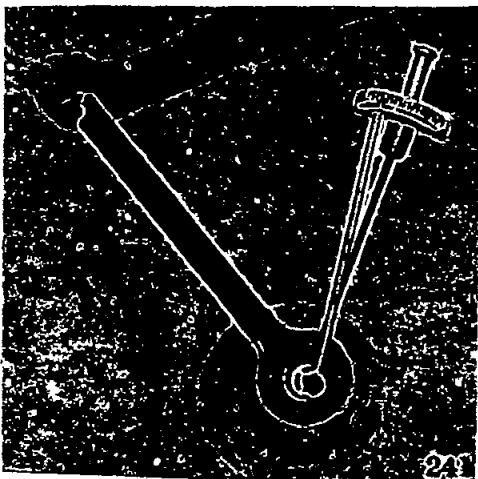

Fig. 16
- (5) The formal adjustment of the drive pinion, bearing and preload. After the fixing position of drive pinion is decided as mentioned in the previous paragraph, take off the pinion nut & companion flange to mount again the drive pinion bearing spacer (distance piece) and nut. Tighten up the nut as Fig. 16 by using the torque wrench at the regular torque of 100-120 ft/per lbs. The preload supportedly the bearing in this case is different according to the condition of the bearing adjusting shim inserted.